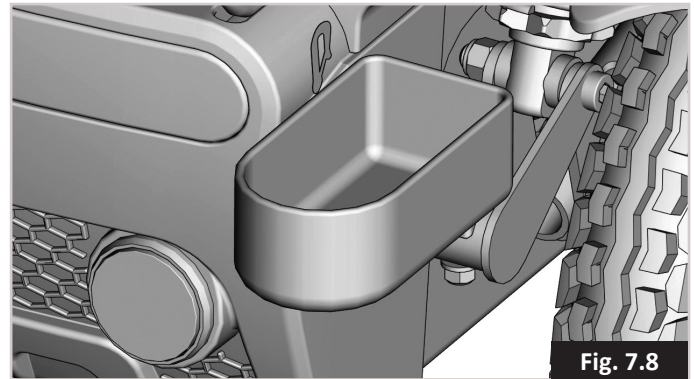

Fig. 7.8
**7.7 Crutch Holder, (Fig.7.8):****⚠ WARNING!**